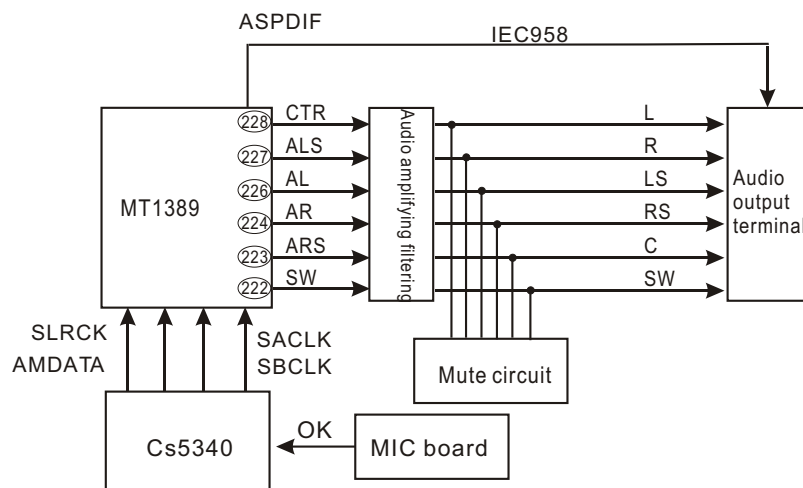

Figure 3.2.10.1 Audio circuit block diagram
1. Audio circuit block diagram is shown in the figure 3.2.10.1: